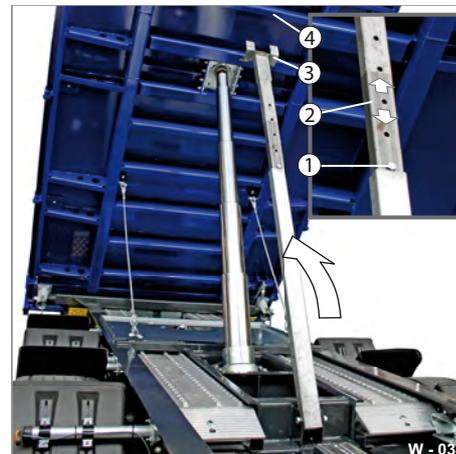

Fig. 38 Setting up service support
- ▶ Adjust the support (Fig. 38/2) to the required length and insert the screw (Fig. 38/1) into one of the bore holes.
- ▶ Slowly tilt the loading bridge onto the U-support arm (Fig. 38/3).
The U-support arm must sit securely on the cross brace (Fig. 38/4).